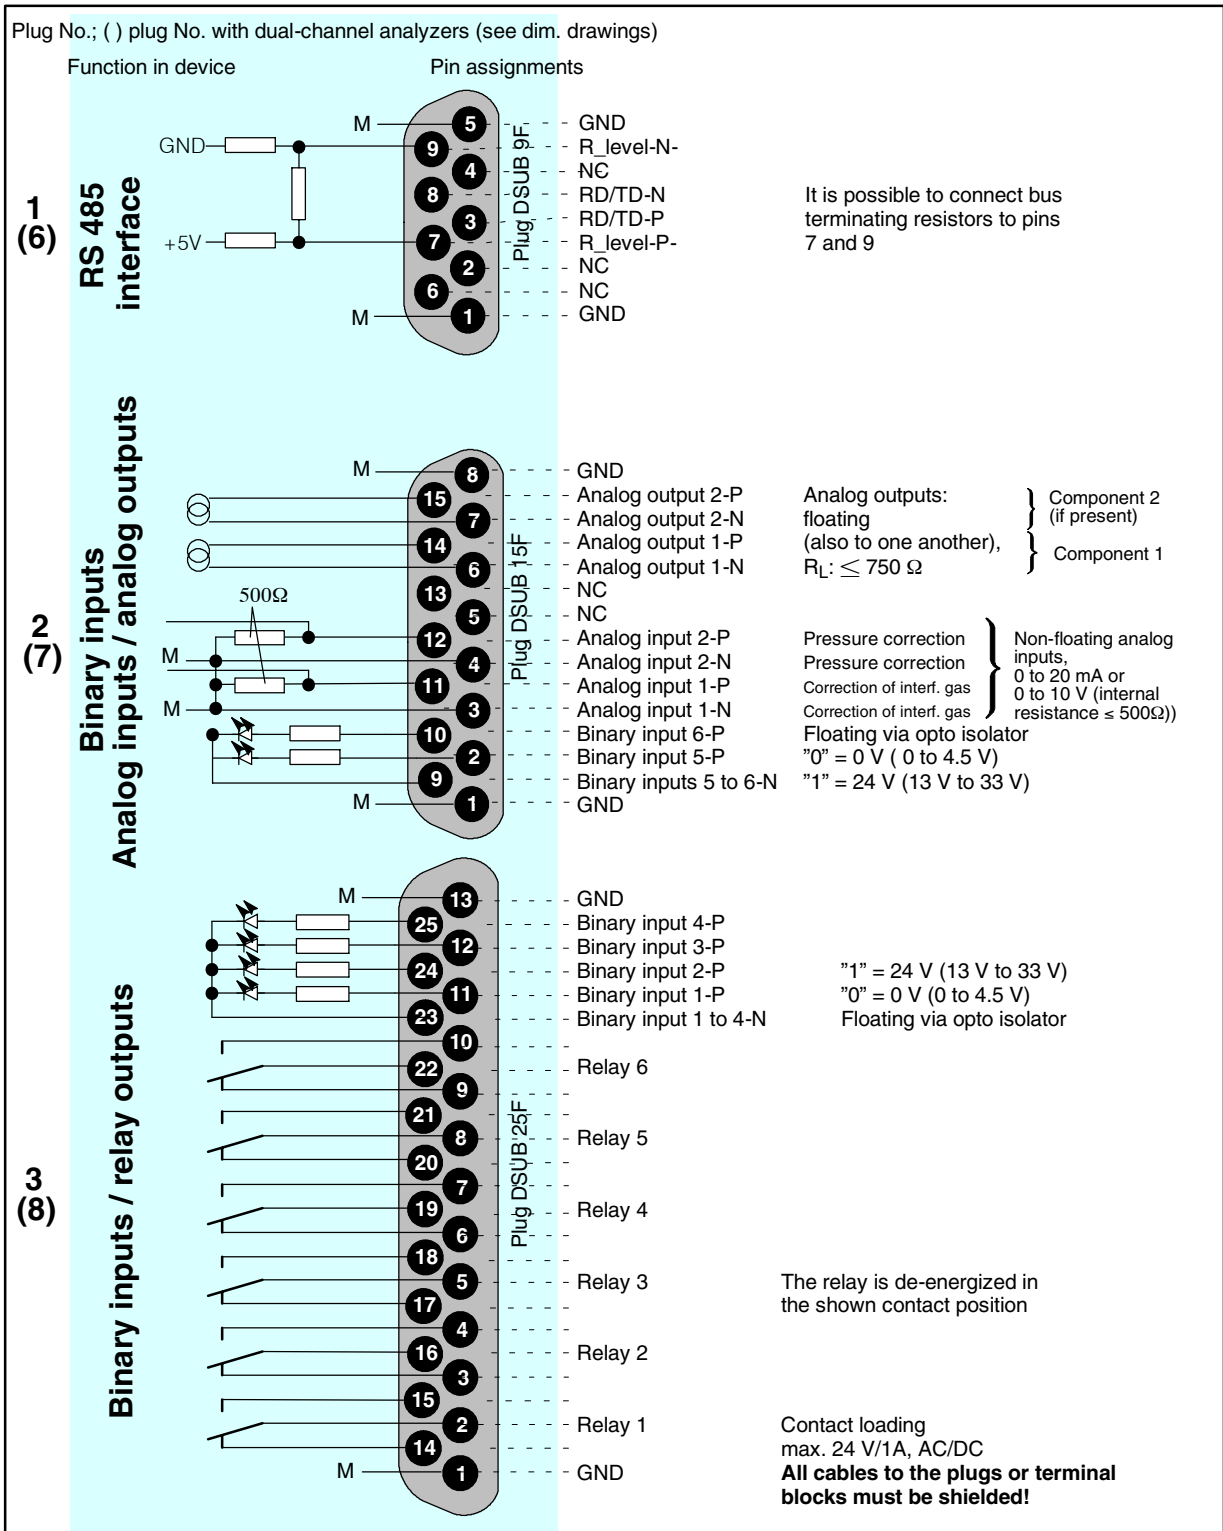

Fig. 2-15 Pin assignments of ULTRAMAT 6E and OXYMAT 6E
- The cables to the relay outputs and binary inputs as well as the analog inputs and outputs must be screened. They must be connected to the corresponding trapezoidal plug (D-SUB plug) according to the pin assignment diagrams (Figs. 2-15 and 2-16). The conductor cross-section should be $\geq 0.5 \text{ mm}^2$. Cables of type JE-LiYCY ... BD are recommended. The cable length of the analog outputs depends on the load.